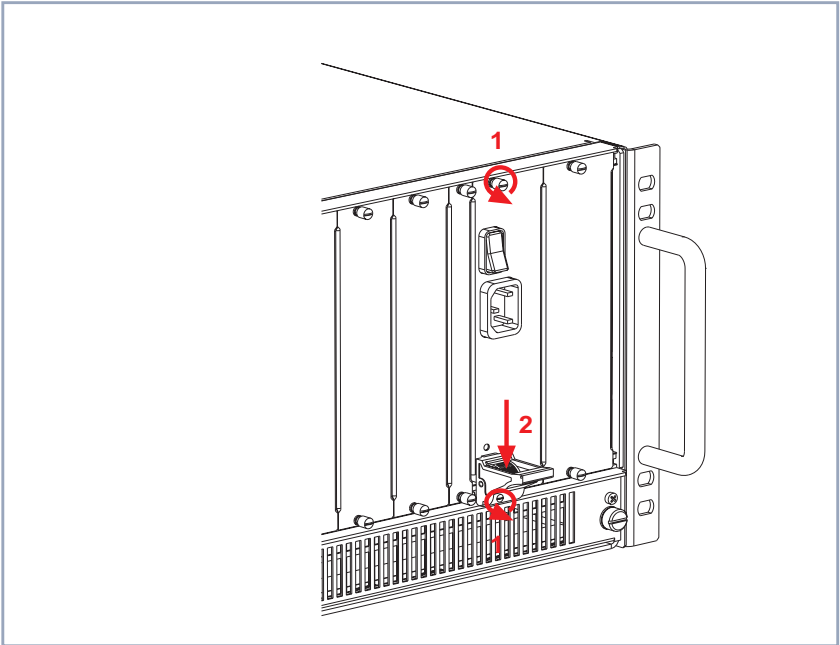

Figure 1-4: Removing the power supply unit
- Loosen the screws of the power supply front-panel as shown in figure 1-4, page 23, arrows no. 1.
- Press the switch on the injector/ejector handle down in order to release the connection linked to the cross section of the case front, see figure 1-4, page 23, arrow no. 2.